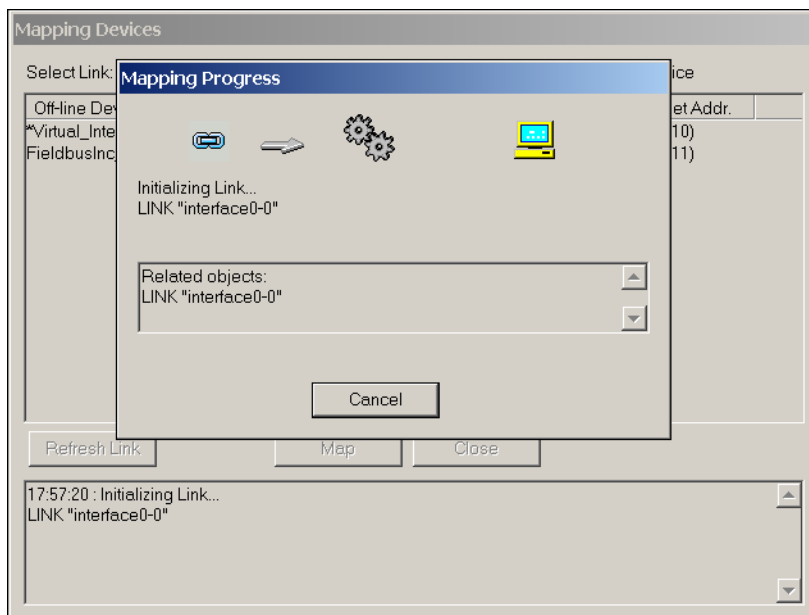

Figure 3-8. Initializing the Link
3. As the Configurator launches, check the **Open** option in the startup dialog box and open the `.fcf` file you saved in the Offline Configurator. A window prompts you to initialize the link, as shown in Figure 3-8.